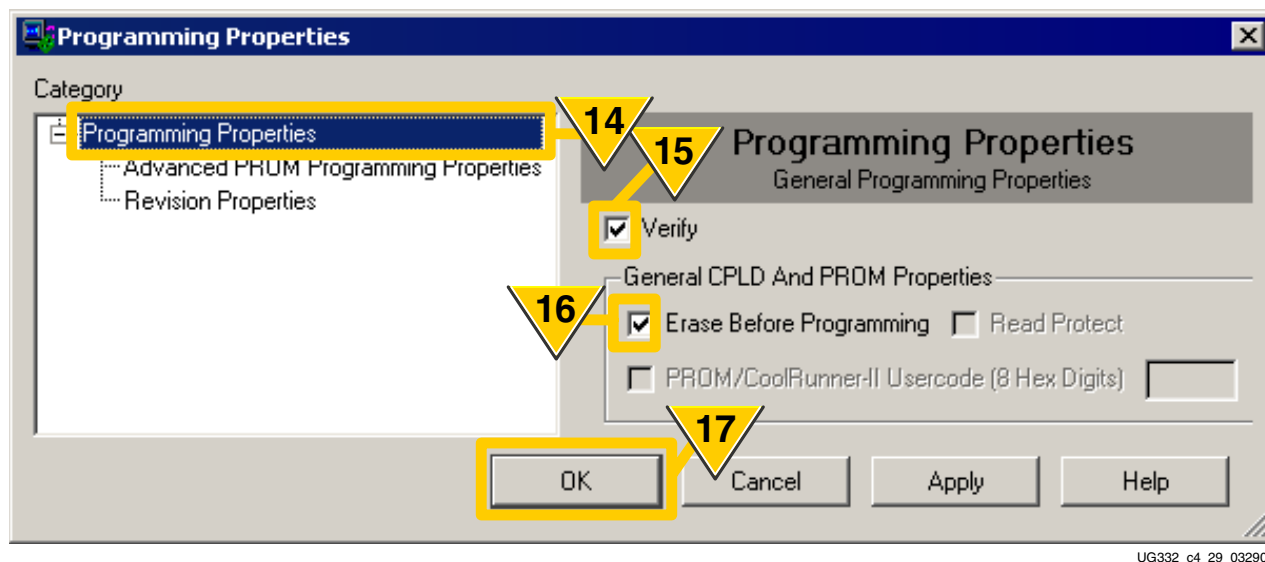

Figure 12-18: SPI PROM Programming Options
14. Click the **Programming Properties** option under **Category**, as shown in Figure 12-18.
18. The iMPACT software indicates successful programming, as shown in Figure 12-18. The FPGA is configured with the new programming file.